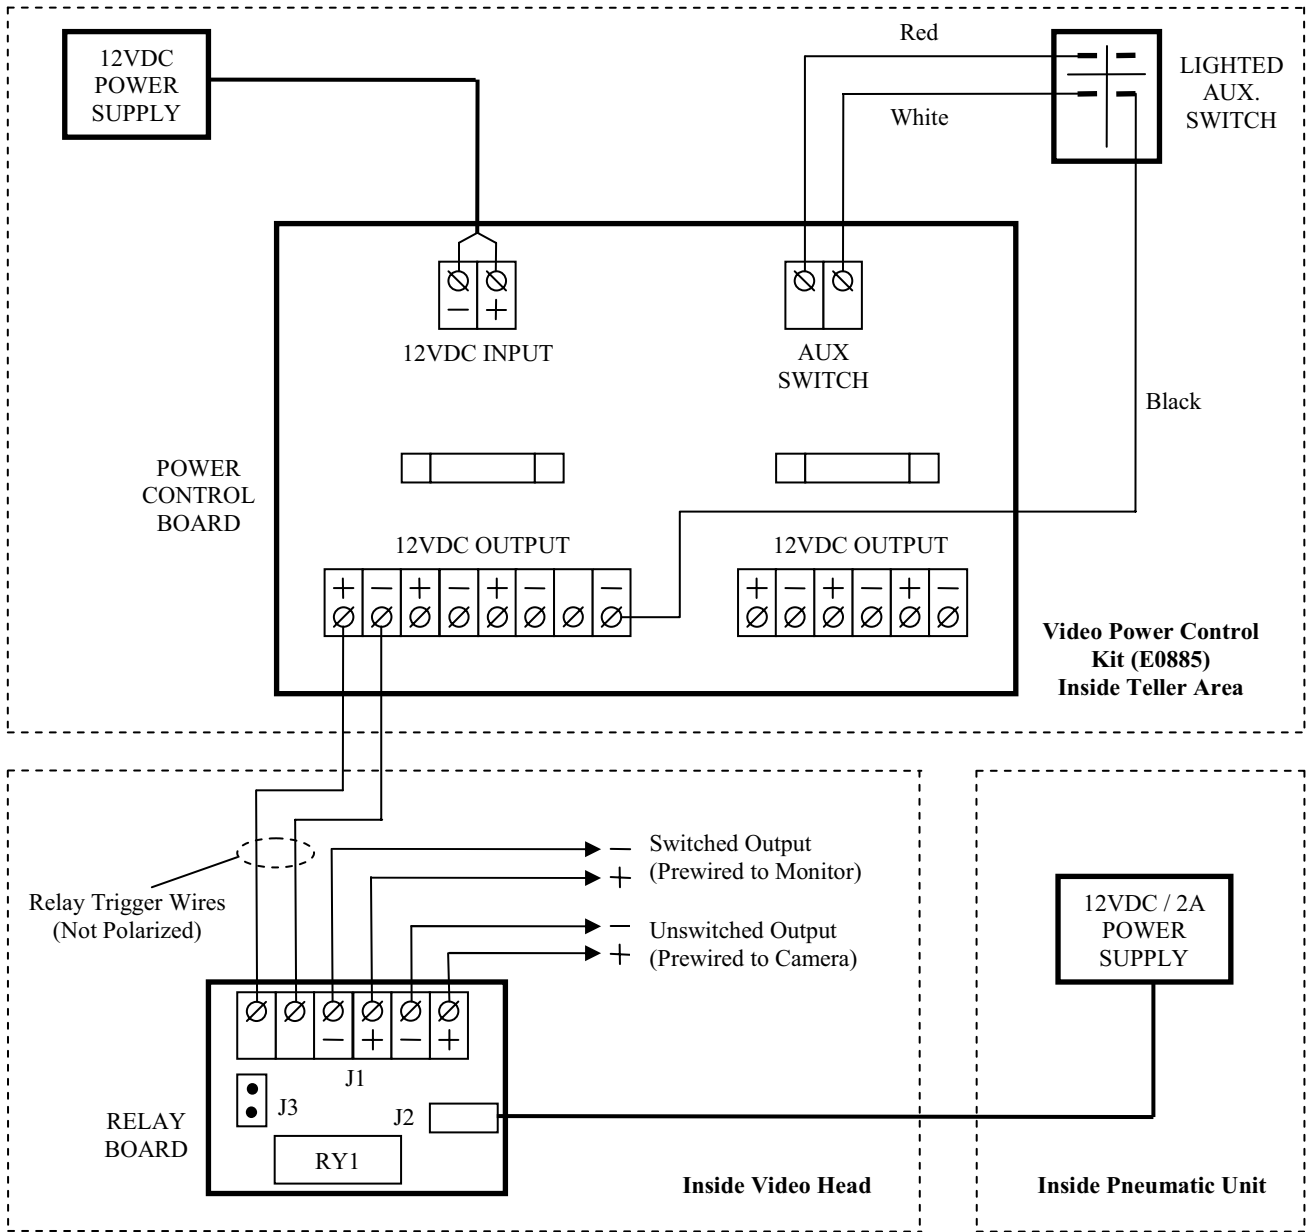

Figure 1
- Feed the video cables, the 2A power supply cable and the relay trigger wires from the power control kit from inside the pneumatic unit through the top of the unit and through the video mounting bracket. Attach the mounting bracket to the pneumatic unit with the (4) supplied washers and nylon lock nuts.
- Route the cables from the bracket through the back of the video head and up behind the monitor. *(Use care when fishing the wires behind the monitor to avoid damage to the circuit boards.)* Attach the video head to the mounting bracket with (4) screws provided in the accessory bag. Two of the screws are security type. A driver bit is included for the security screws.
- Connect the monitor cable to the top left BNC connector and the camera cable to the top right BNC connector in the video head as labeled. Connect the power supply cable and the relay trigger wires to the relay board near the top rear of the monitor per Figure 1 on the back of this document. Slide the excess cable back through the bracket and into the pneumatic unit and then install the end caps from the accessory bag into both ends of the bracket.